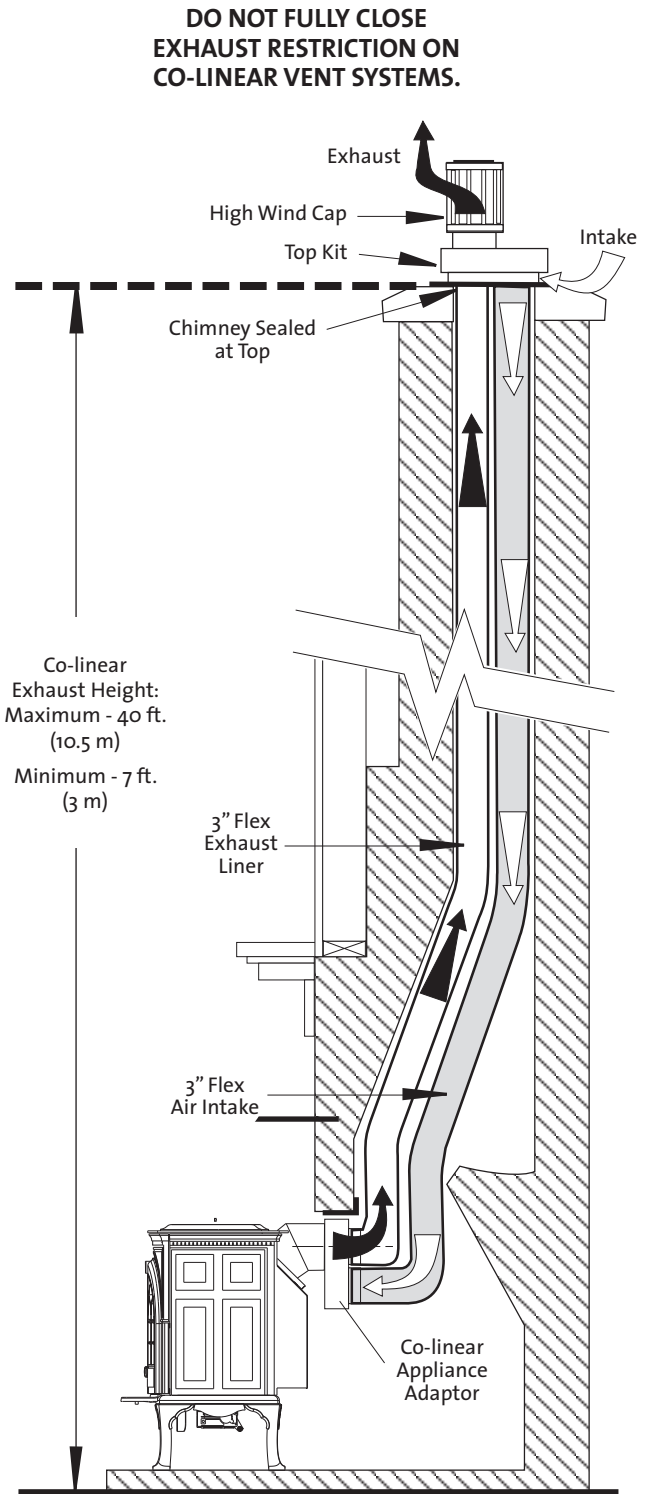

Figure 6. Co-linear Hearthmount Vent System
The GF 600 DV II Firelight can be installed using a Hearthmount Co-linear Flexible Vent System, designed for installation into a solid fuel-burning masonry fireplace. See Figures 6 and 6a.
- Installation of a Chimney Top Kit will provide a seal at the top of the chimney. The fireplace damper may be removed and no further block-off is required. See fig. 6.